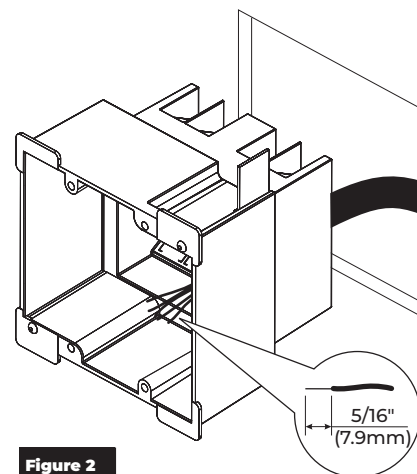

Figure 2
2. If jurisdiction requires, secure wire conduit (supplied by others) to the back of the housing and feed the wires through the plastic conduit housing. (Figure 2)
3. Strip the sheath from each wire end exposing 5/16" (7.9) to prepare wires for connection. (Figure 2)